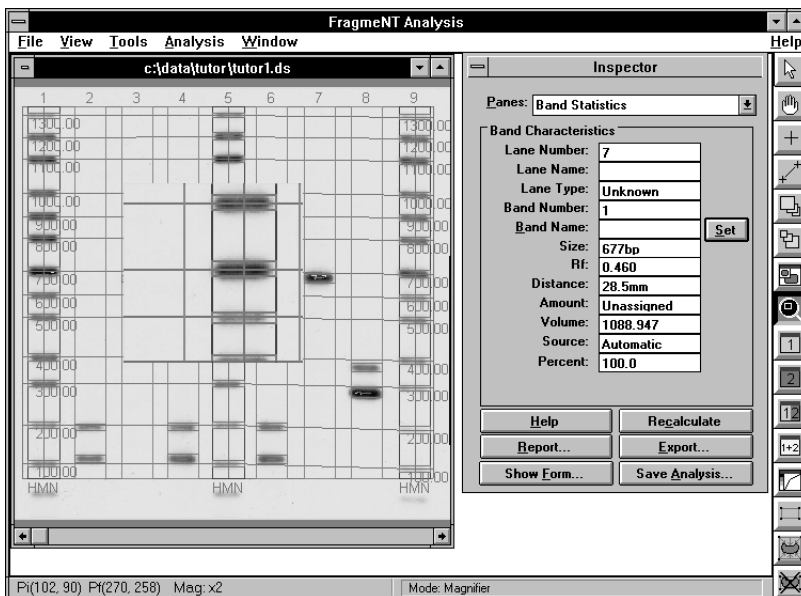

Figure 4-1. Using the Magnifier to inspect bands.
The Magnifier tool is a “magnifying glass” for enlarging selected areas of the display (figure 4-1). To use this tool, click the **Magnifier** button () on the toolbar (or select the **Magnifier** command from the **Tools** menu). With the pointer (now a cross shape) on the Image window, drag the Magnifier around the Image window to view different areas.
1. On the toolbar, click the **Magnifier** button () , and then place the pointer anywhere in the image and hold down the mouse button. A magnifying glass appears (figure 4-1).